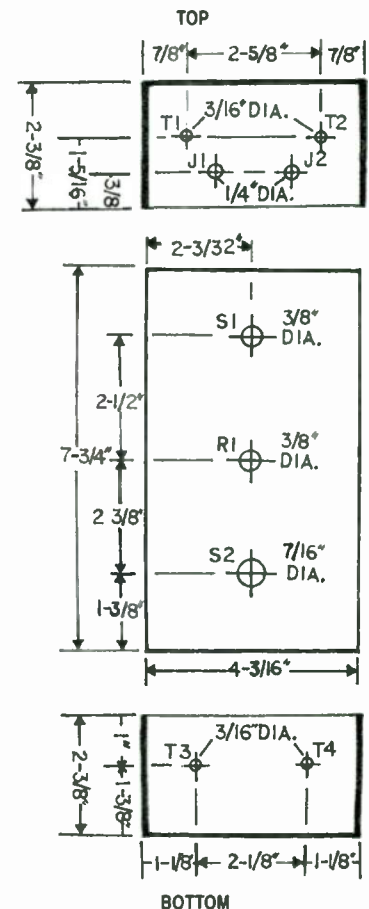

FIGURE 3: Physical layout of chassis and location of components.
1. Lay out the front panel (cover) and the ends of the plastic box, and drill holes as shown in *Fig. 3*.